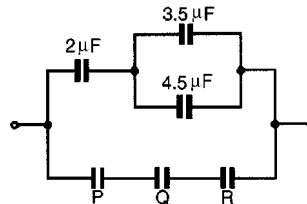

Figure 6.12
- In Fig. 6.12 capacitors P , Q and R are identical and the total equivalent capacitance of the circuit is $3\mu\text{F}$. Determine the values of P , Q and R [$4.2\mu\text{F}$ each]